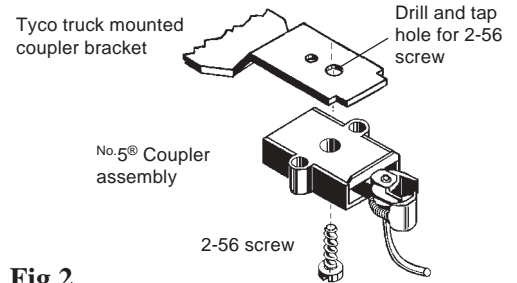

Fig.2
3. Enlarge mounting hole closest to end of coupler mounting bracket with a #50 Drill and tap 2-56. Place No.5® Coupler assembly on the bottom of the mounting bracket, align holes and secure with a 2-56 screw. See Fig. 2.